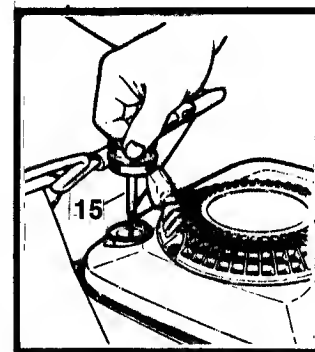

FIG. 2
•**CHECK** guards, BAG (3) BAG ADAPTOR (4) or side discharge chute for proper position and tightness.
•**CHECK** oil level in 4-cycle engines and add oil as needed to bring the level up to but not over the dipstick (15) "FULL" mark. Refer to FIG. 2.